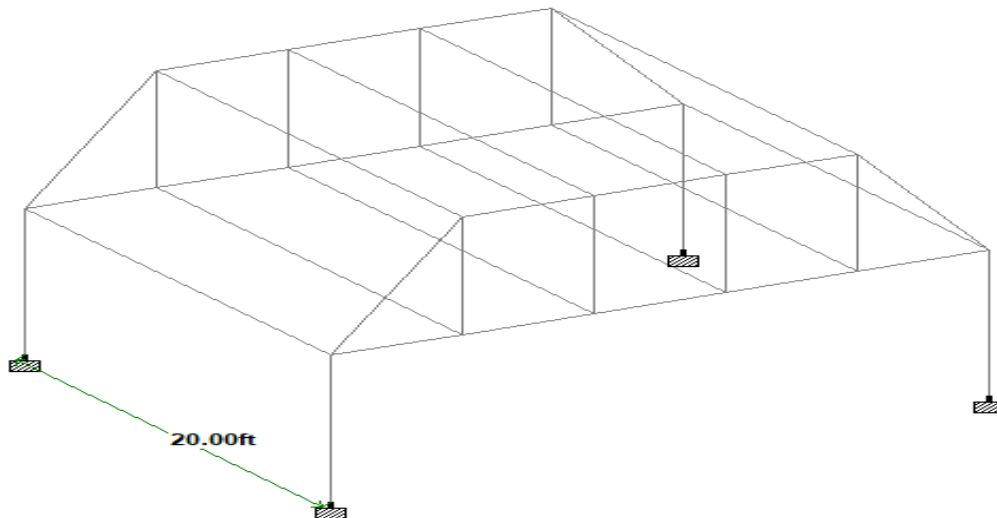

Fig: 4.24
2.3 Now Select the whole structure (in View window) by using beam cursor → Translational Repeat → Global Direction = Z → No. of Steps = 1 → Spacing= 20 → Click on Link Steps → OK and then delete extra beams (Fig: 4.24)